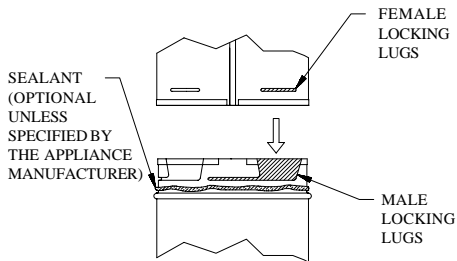

Fig 5
Notes: (1) Twist-lock procedure: Four indentations, located on the female ends of pipes and fittings, are designed to slide straight onto the male ends of adjacent pipes and fittings, by orienting the four pipe indentations so they match and slide into the four entry slots on the male ends. (Fig 5) Push the pipe sections completely together, then twist-lock one section clockwise approximately one-quarter turn, until the two sections are fully locked. The female locking lugs will not be visible from the outside of the Black Pipe sections. They may be located by examining the inside of the female ends.
(2) Horizontal runs of vent must be supported every three feet. Use Wall Straps or Plumber's Tape / Strapping for this purpose.
(3) Sealant is optional, unless specified by the appliance manufacturer. Should you elect to use sealant, it is only necessary on the outer tube of the Pipe Section. Run a 1/8" wide bead of sealant around the male end of the outer sleeve, as shown in Figure 5, and twist-lock the pipes or fittings together.